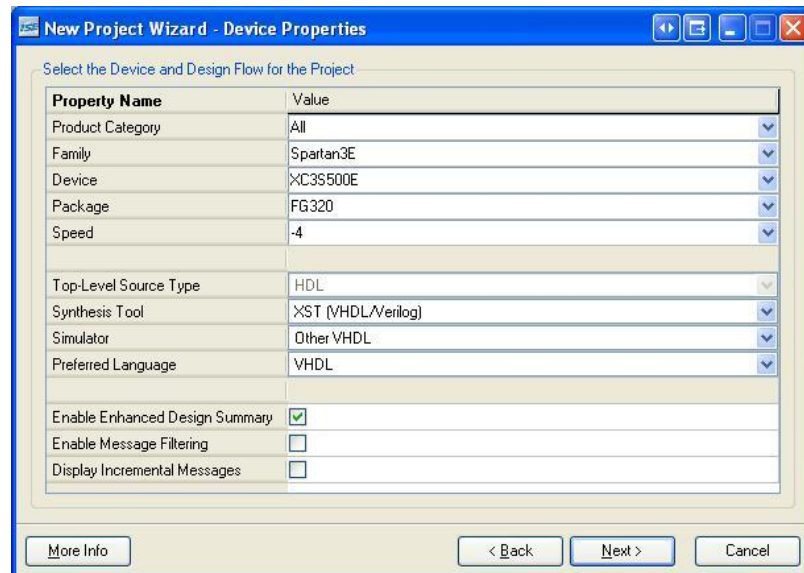

Figure 21: Device Configuration
2. Set the values to match those shown below in Figure 21 and click the **Next** button.